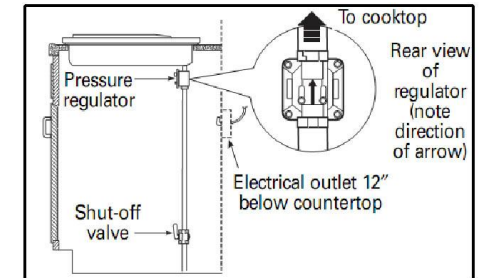

Figure 13
• If the cooktop is converted for **liquid petroleum (LP) gas**, the LP gas supply is required to provide a minimum of 10" to a maximum of 14" water column to the cooktop regulator.
• **⚠ The gas supply line must be equipped with an approved manual shut-off valve. In an easily accessible location in the same room as the cooktop. Do not block access to the shutoff valve. Be sure you know how and where to shut off the gas supply to the cooktop. Install the electrical outlet 12" below the countertop (see Figure 13).**